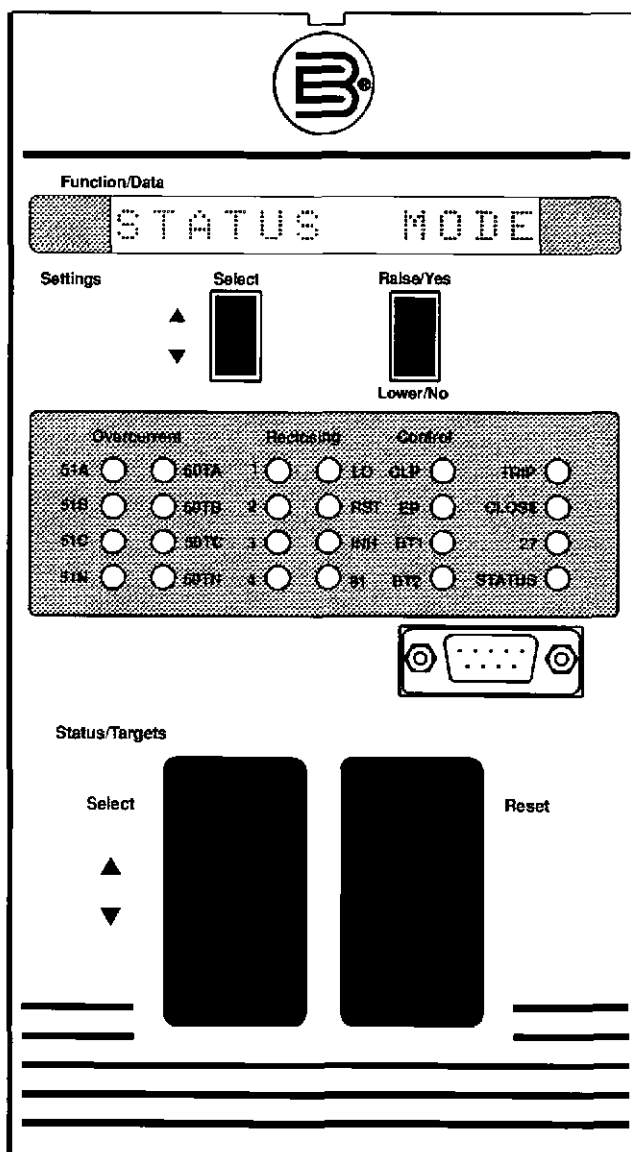

Figure 2 - Control Panel
- Front panel display for reading data and setting parameters is shown in figure 2.